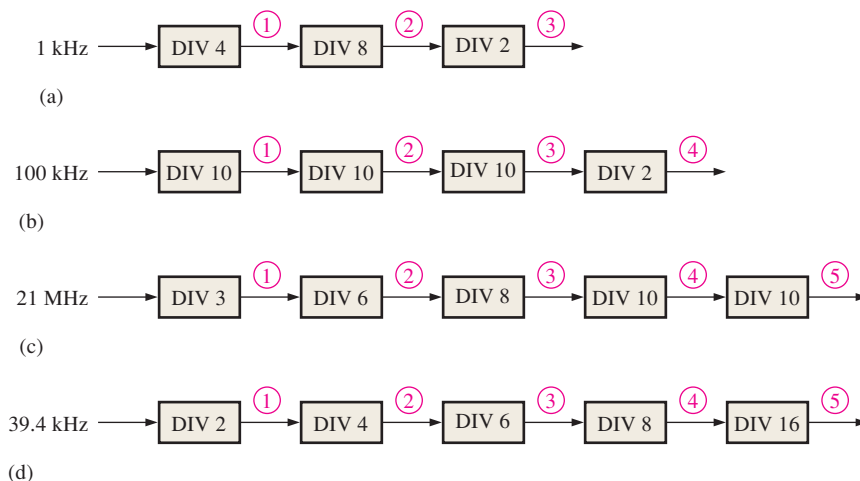

FIGURE 9-76
24. For each of the cascaded counter configurations in Figure 9-76, determine the frequency of the waveform at each point indicated by a circled number, and determine the overall modulus.